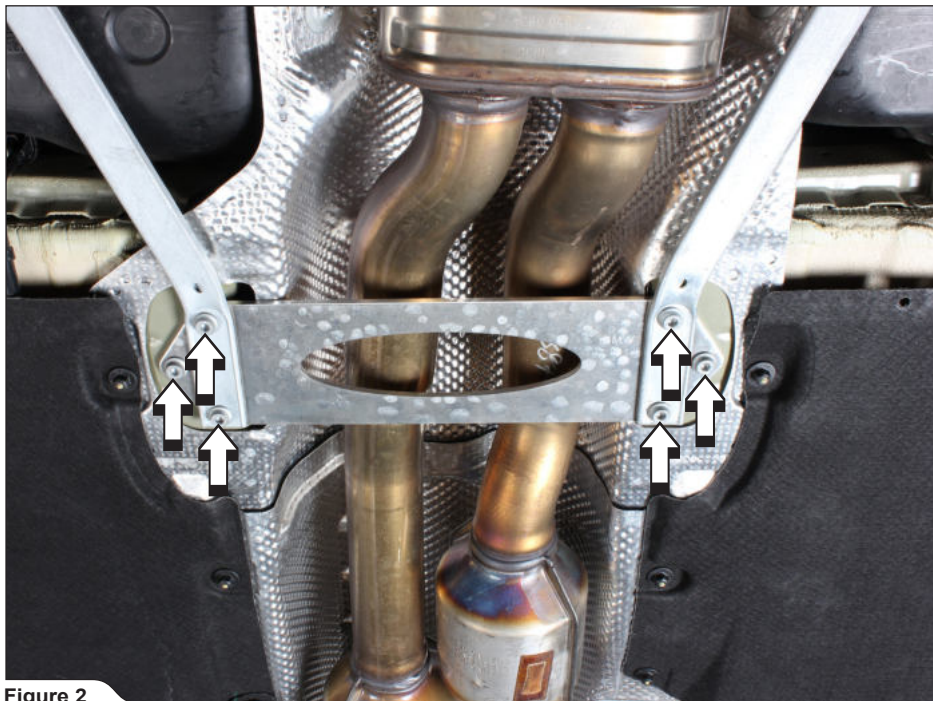

Figure 2
2. Unscrew and remove the chassis reinforcement (**Figure 2**).